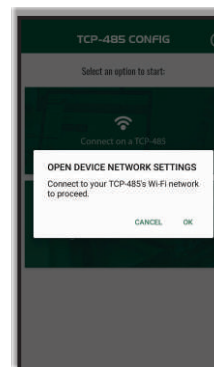

Figure 02
The converter leaves the factory in the Wifi Access Point operating mode. After initialization, the POWER LED will be on in **lilac** and the STATUS LED will be flashing in **yellow**. At this moment, the TCP-485 WiFi Log awaits the connection of a client on its Wireless network created according to the standards specified in item 8.1. Using a smartphone with the **TCP-485 Config** app, choose the option **Connect on a TCP-485**. The screen in Figure 02 will appear. Choose the **OK** option, and the smartphone's Wi-Fi network selection interface will open (Figure 03). Connect to the network created by the converter (Figure 04) and ignore if the smartphone alerts that the chosen network does not have access to the internet. Press the back button, and the smartphone will return to the **TCP-485 Config** app and display the **Converter Search** screen (Figure 05). Only the converter being configured will appear on this screen, since it is the access point itself. Select the converter and proceed to select the operating mode (items 10.2, 10.3 and 10.4).